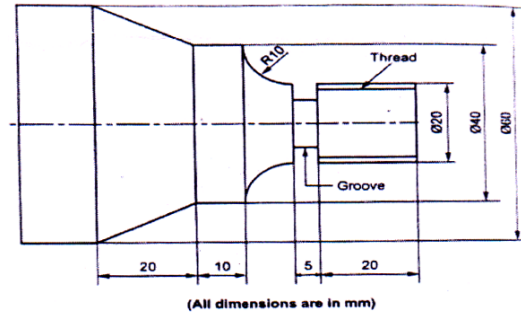

Fig.1
- Q3) a)** Write a complete part program using G code and M code for the job as shown in Fig. 1. Assume suitable speed and feed for machining.